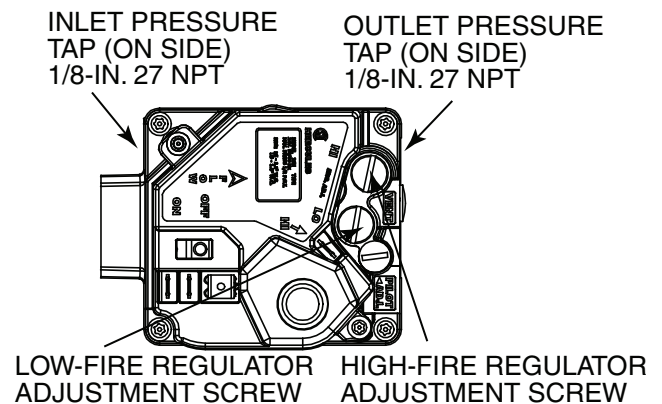

Fig. 94 — Two-Stage Gas Valve
6. Remove screw cap covering regulator adjustment screw (see Fig. 94).